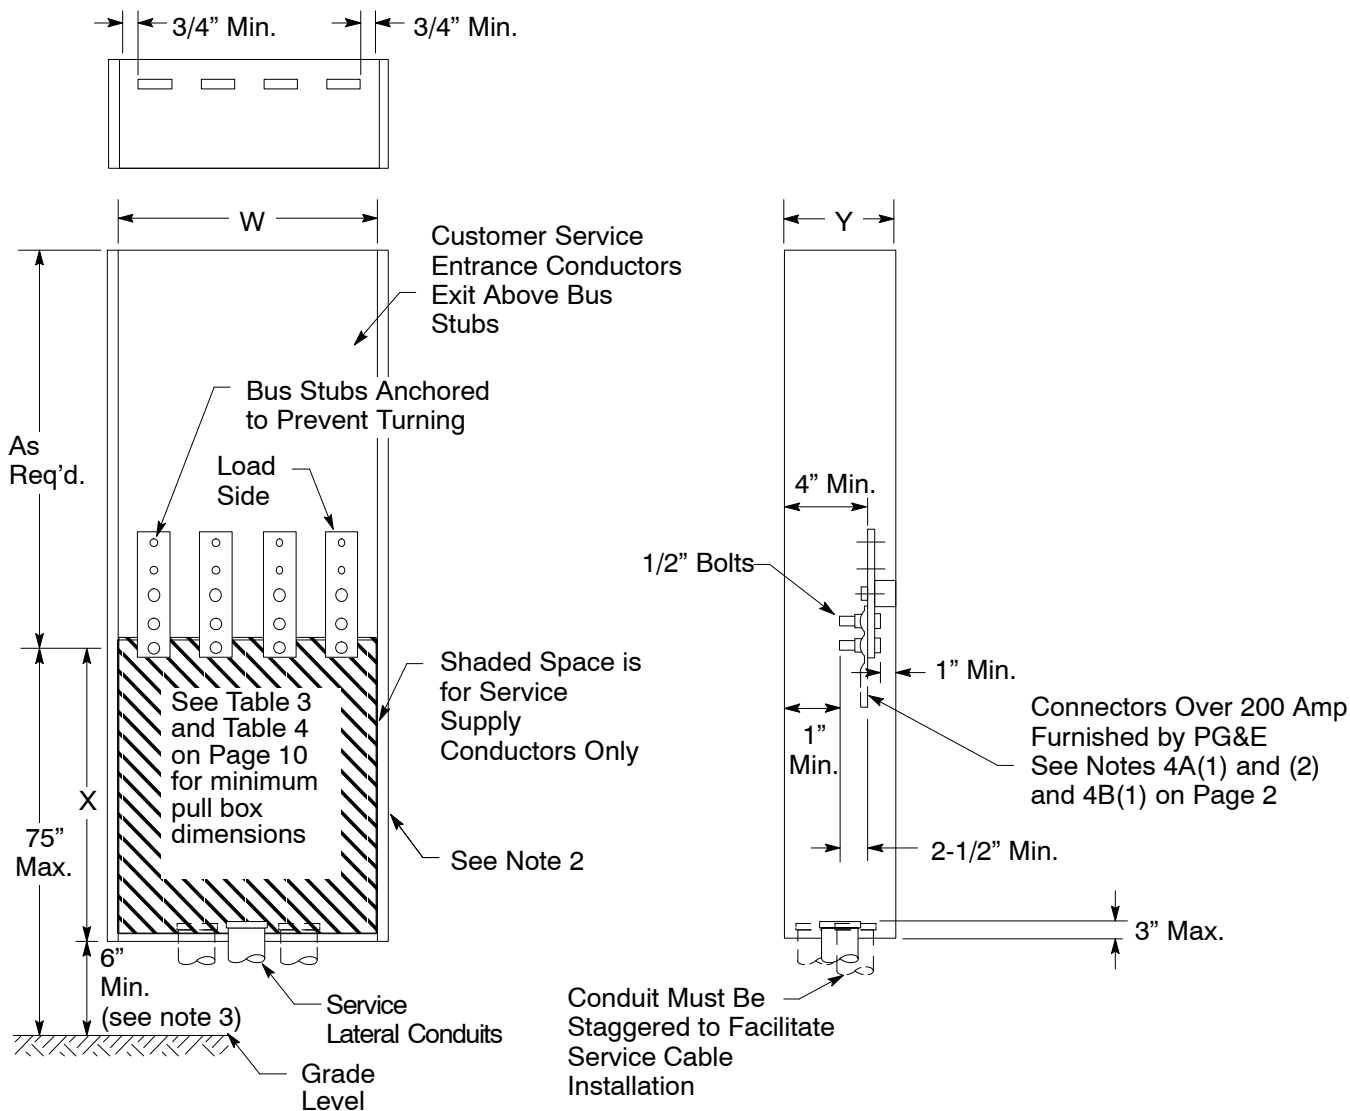

Figure 10
- (3) Underground service pull and termination box (see Figure 10 on Page 9).
- (4) Underground service pull and termination section of a floor-standing switchboard (see Document 063929 to determine when bus duct termination equipment is required).
- (1) Underground service pull and termination box (see Figure 10 on Page 9).
- (2) Underground service pull and termination section of a floor-standing switchboard.
Notes in reference to Figure 10 on Page 9, to Table 3 above, and to Table 4 above.